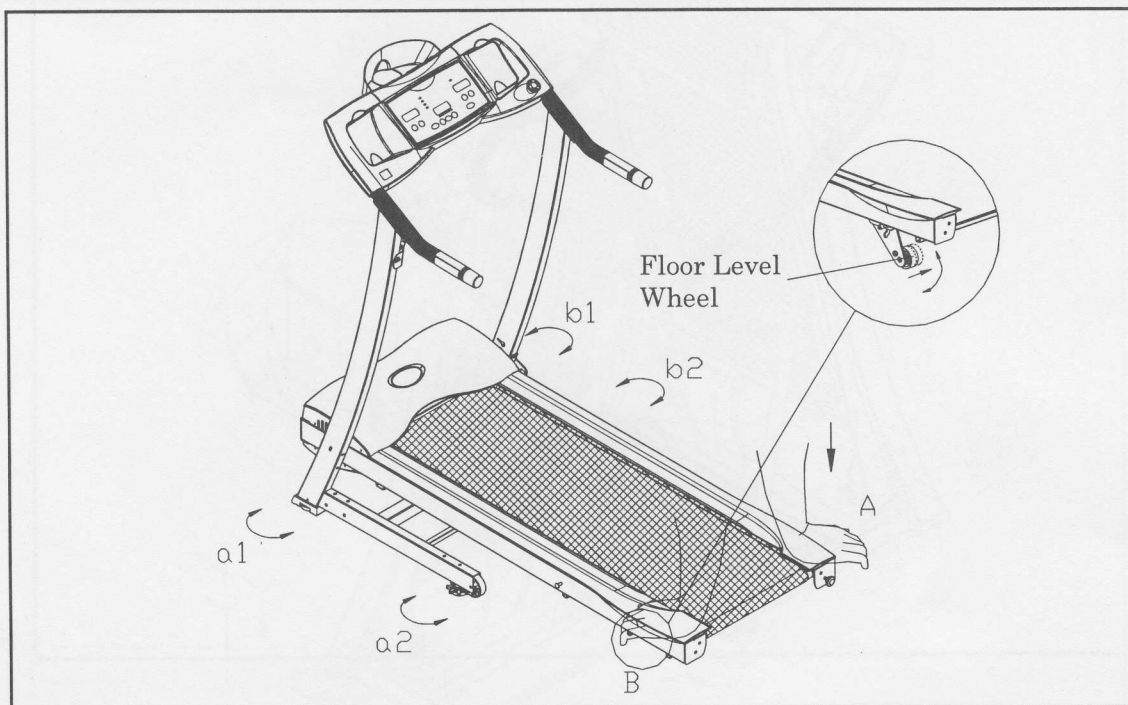

Fig.15
2. Unfold the treadmill to the ground. Firmly press your treadmill from rear to make sure the incline roller wheels on both side A and side B are completely on the ground. If any floor level wheel is not on ground, please make the necessary adjustment by turning the floor level wheel to proper height to make your treadmill steady. (See Fig. 15)